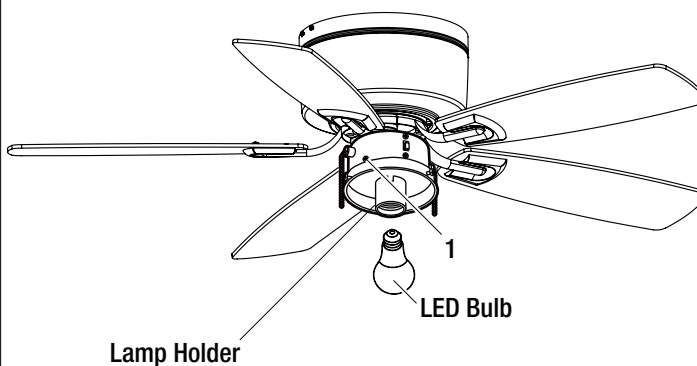

Figure 13
- Install a LED bulb (max. 9W, medium screw base) to the lampholder (Figure 13).